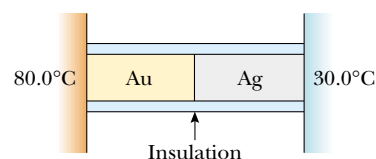

Figure P20.45
45. A bar of gold is in thermal contact with a bar of silver of the same length and area (Fig. P20.45). One end of the compound bar is maintained at 80.0°C, while the opposite end is at 30.0°C. When the rate of energy transfer by conduction reaches steady state, what is the temperature at the junction?